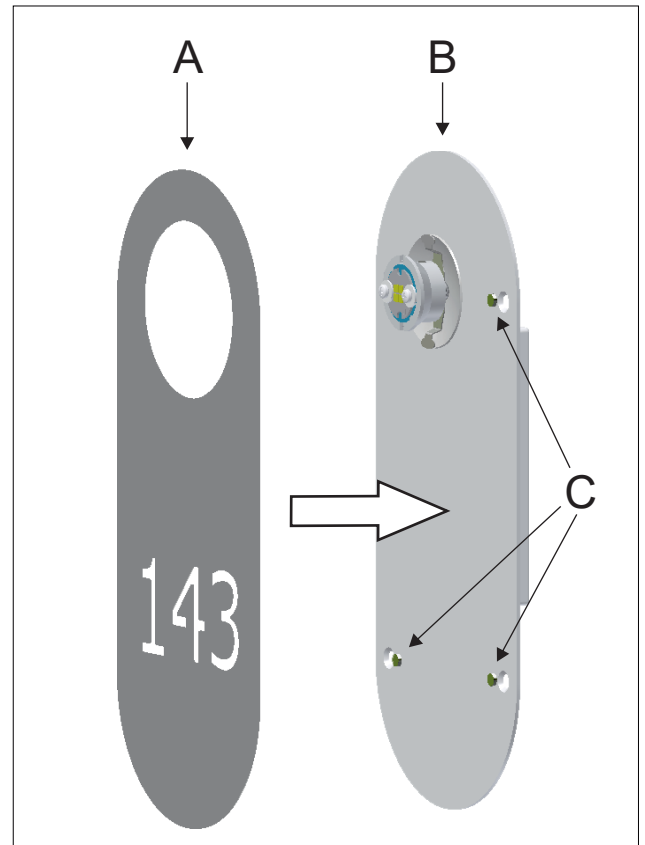

Figure 5
5 - Attach again the metal number plate (A) and attach it again to the mounting bracket (B) using the magnets (C). Figure 5.